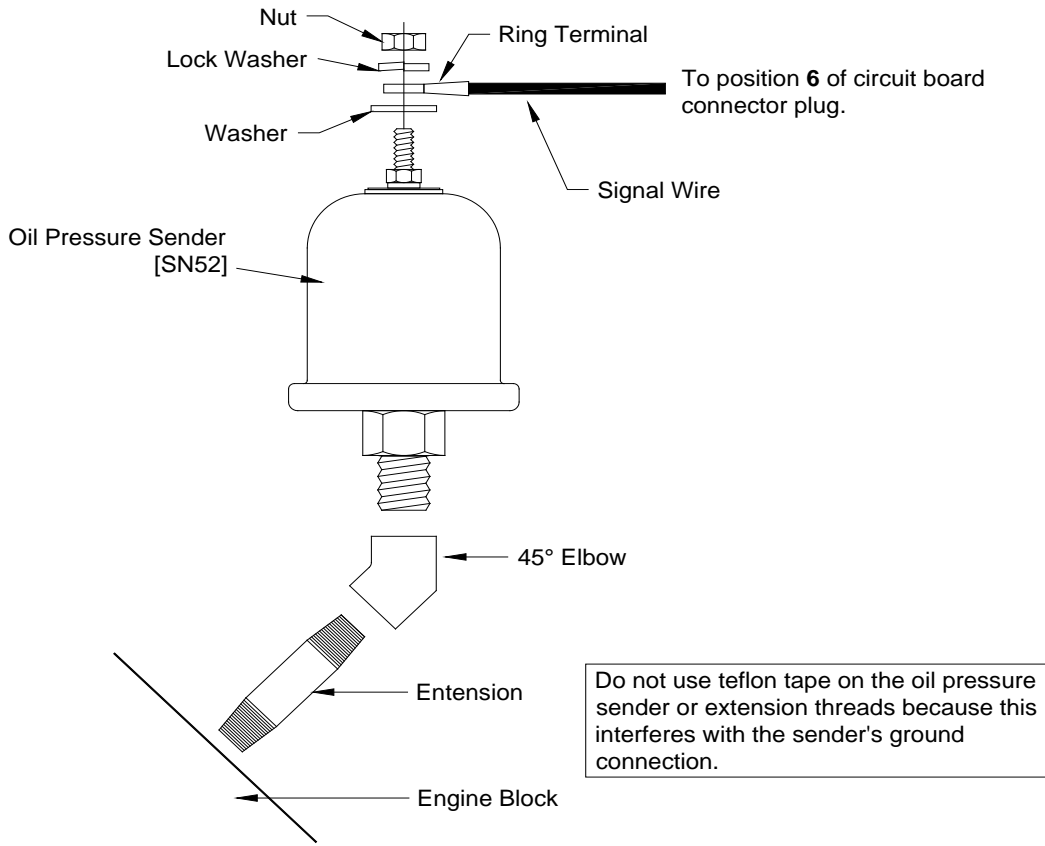

Figure 1: Oil Pressure Sender Wiring
- 7) Connect the oil pressure signal wire to position **6** of the circuit board connector plug. (*see figure 1*)